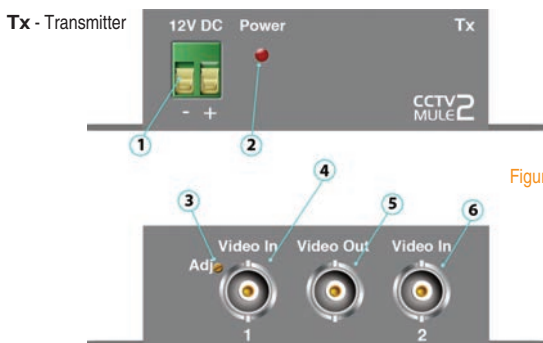

Figure 1
1. Connect your 2 video input signals into the 'Video In' ports 1 & 2 (figure1, 4 & 6)
2. The RG59 co-ax cable connects to the 'Video Out' port (figure1, 5), the maximum length for this cable is 200 metres.
3. You can adjust brightness of the video inputs if required by turning the grub screw (figure 1, 3) with a screwdriver clockwise and anticlockwise.
1. Connect the video input signal into the 'Video In' port 1 (figure 1, 4).
2. Connect an LCD monitor to the 'Video In' port 2 (figure 1, 6).
3. Connect the RG59 co-ax cable into the 'Video Out' port (figure 1, 5) the maximum length is 200 metres.
2. Connect an audio input device such as a microphone into 'Video Out' port 2 (figure 1, 6) of the transmitter.
2. Connect an audio output device such as the VoiceOff into 'Video In' port 2 (figure 1, 6) of the transmitter.
A.1 Check the Mules are connected the correct way around. The transmitter Mule (TX) should have the camera inputs connected to it and sited at the camera end. The receiver Mule (RX) should have the video outputs connected to the DVR and should be sited at the DVR end. Make sure that you have video going in to the TX mule using a test monitor.
A.2 Check the power supply is connected correctly to both Mules and outputting 12v D.C. Ensure the positive cable is connected to the positive port (+) and the negative cable is connected to the negative port (-) (figure 1 & 2).
A.3 You will need to adjust the gain control by turning the 'Gain' control switch on the Mules (figures 1 & 2). This is done with a flat blade screwdriver, turn clockwise a fraction on the RX and review the video output again this may need a few turns to fully improve video quality. Remember that the maximum cable length is 200mtrs.